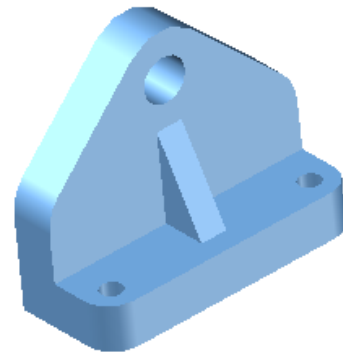

Figure Step 3
Step 3 On layer: Surface Support, surface the complete model. Use faces, meshes, regions, or a mixture of them. (Figure Step 3)